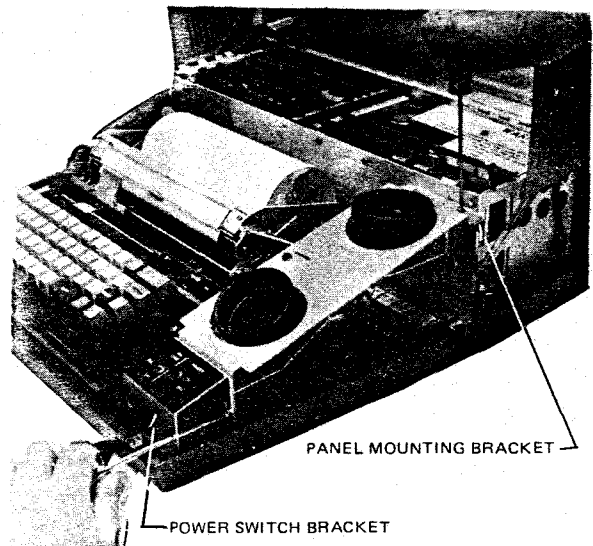

FIGURE 2-7.7. INSTALLING THE ACOUSTIC COUPLER PANEL
- (3) Insert a screwdriver through the front of the POWER switch box as shown in Figure 2-7.7 and tighten the two No. 6 screws at the front part of the Acoustic Coupler panel.